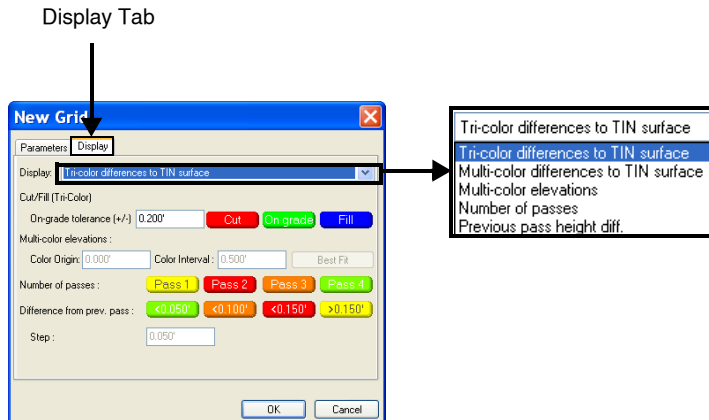

Figure 8-14. Enter New Grid Display Information
4. On the *Display* tab, enter the following display information for the grid (Figure 8-14 on page 8-10):
The Colouration Tab: See Figure 8-14 on page 8-10, Step 4 to set parameters for the *Colouration* tab.